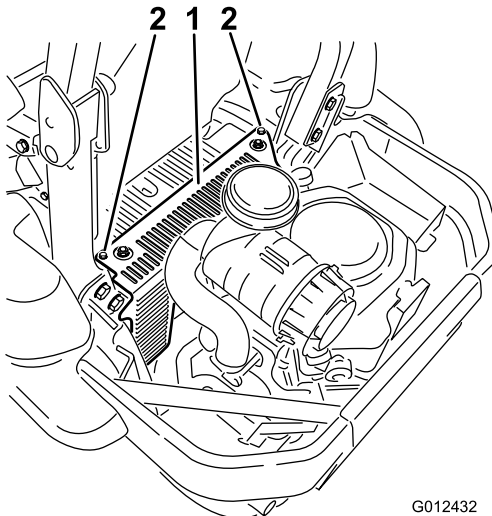

Figure 48
3. Remove the hydraulic-unit shroud and the 2 bolts attached to it (Figure 48). This gives you access to the front spark plug.
5. Install the left-hand hydraulic-unit shroud (Figure 48).